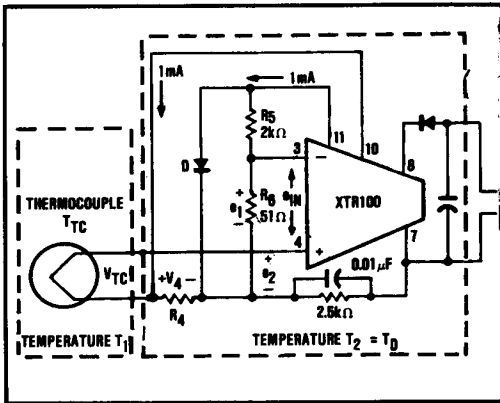

FIGURE 8. Thermocouple Input Circuit with Two Temperature Regions and Diode Cold Junction Compensation.
**EXAMPLE 2 - Thermocouple Transducer** shown in Figure 8. Given a process with temperature ( $T_1$ ) limits of 0°C and +1000°C, configure the XTR100 to measure the temperature with a type J thermocouple that produces a 58mV change for 1000°C change. Use a semiconductor diode for a cold junction compensation to make the measurement relative to 0°C. This is accomplished by supplying a compensating voltage,  $V_{R6}$ , equal to that normally produced by the thermocouple with its "cold junction" ( $T_2$ ) at ambient. At a typical ambient of +25°C, this is 1.28mV (obtained from standard thermocouple tables with reference junction of 0°C). Transmit 4mA for  $T_1 = 0^\circ\text{C}$  and 20mA for  $T_1 = +1000^\circ\text{C}$ . Note:  $e_{IN} = e_2 - e_1$  indicates that  $T_1$  is relative to  $T_2$ .
$R_4$  is chosen to make the output 4mA at  $T_{TC} = 0^\circ\text{C}$  ( $V_{TC} = -1.28\text{mV}$ ) and  $T_D = 25^\circ\text{C}$  ( $V_D = 0.6\text{V}$ ). A circuit is shown in Figure 8.